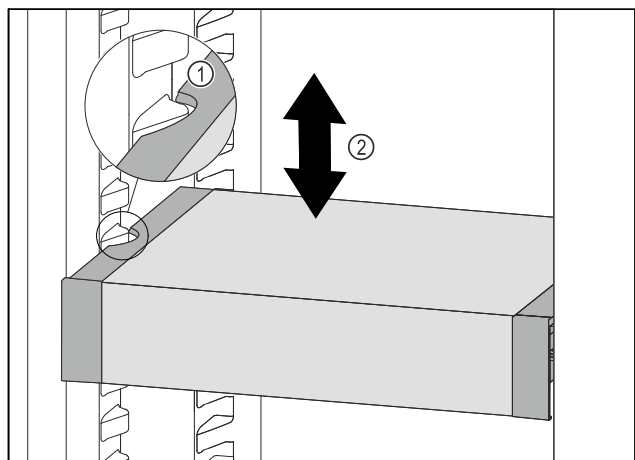

Fig. 143
- ▶ Pull VarioSafe forwards until the recesses in the side of the VarioSafe are at the level of the support rib in the refrigerator compartment. Fig. 143 (1)
- ▶ Move VarioSafe up or down in the refrigerator compartment until the desired height is reached. Fig. 143 (2)